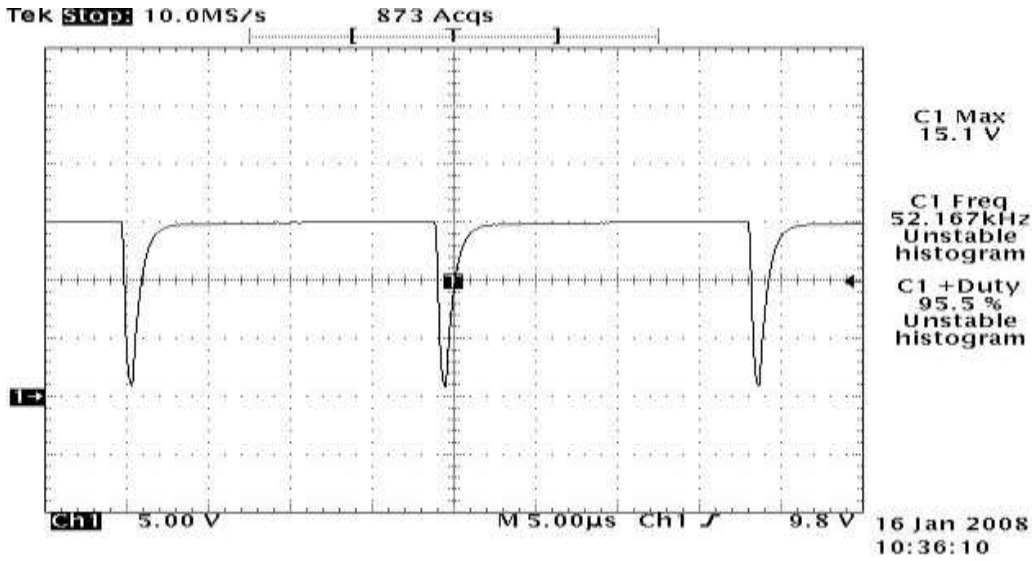

Fig. 1: Gate waveform of PFC Power switches measured between TP43 (and TP49) and GND.
6. 1/2	<p>Off Line Interface Connector and <math>\mu</math>C Activity Check (Part 2 - PFC Check)</p> <p>Connect TP17 to GND1. Connect X2-14 and X2-12 to GND1 (<math>\mu</math>C Ports Enable). Connect a suitable source of regulated voltage 3 Vdc (tolerance +/- 0,5 Vdc 1,0Amp of limiting current) between the test point TP51 and grounding plane (GND1) Await 800mS minimum.</p> <p>Proceed with the following tests:</p> <ul style="list-style-type: none"> <li>○ PFC Activity (QP1 and QP2 gate). Acquire the gate waveform on the power switches (TP43 and TP49).</li> </ul> <p>Verify as follows:</p> <ul style="list-style-type: none"> <li>○ Frequency of signal (37,0 - 44,0KHz)</li> <li>○ Amplitude of signal (between 14,0 and 16,0 Vdc)</li> <li>○ Absence of overshoots</li> <li>○ Duty cycle (about 95%)</li> <li>○ Leading and trailing edge of the signal as exemplified in Fig.1</li> </ul> <p>Please refer to Fig.1 for a shape comparison of the waveform. Note: Frequency of signal can be checked for one switch gate only.</p>